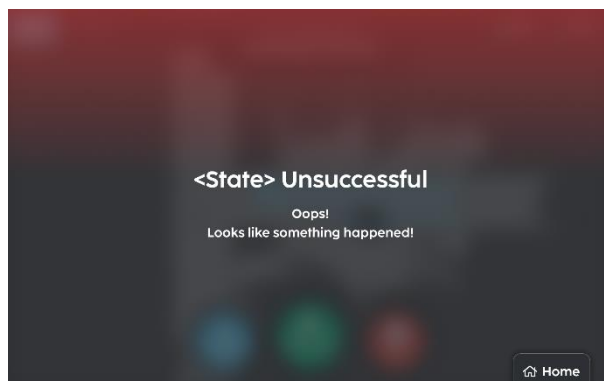

Fig. 10
9. Should there be an interruption in the process the 'Cleaning Unsuccessful' screen will show (Fig 10).